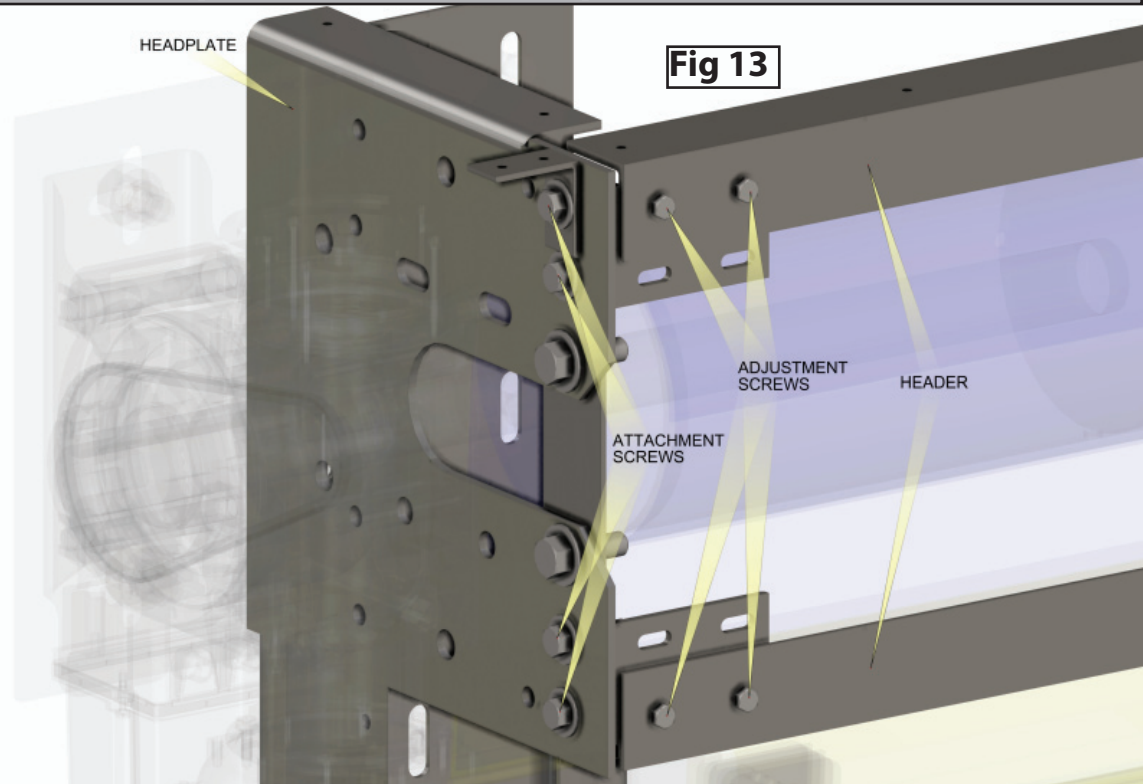

Fig 13
- Align the header assemblies as shown in FIG 13 and install using the attachment hardware from the hardware bag.